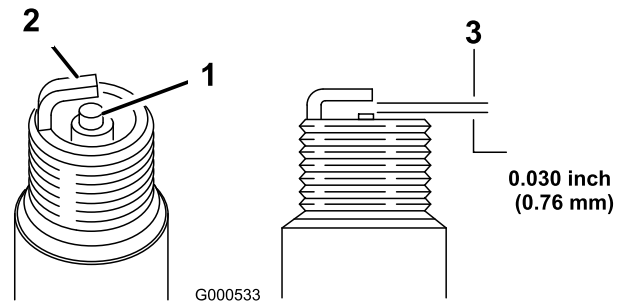

Figure 22
5. Set the gap on the plug to 0.76 mm (0.030 in) as shown in Figure 22.